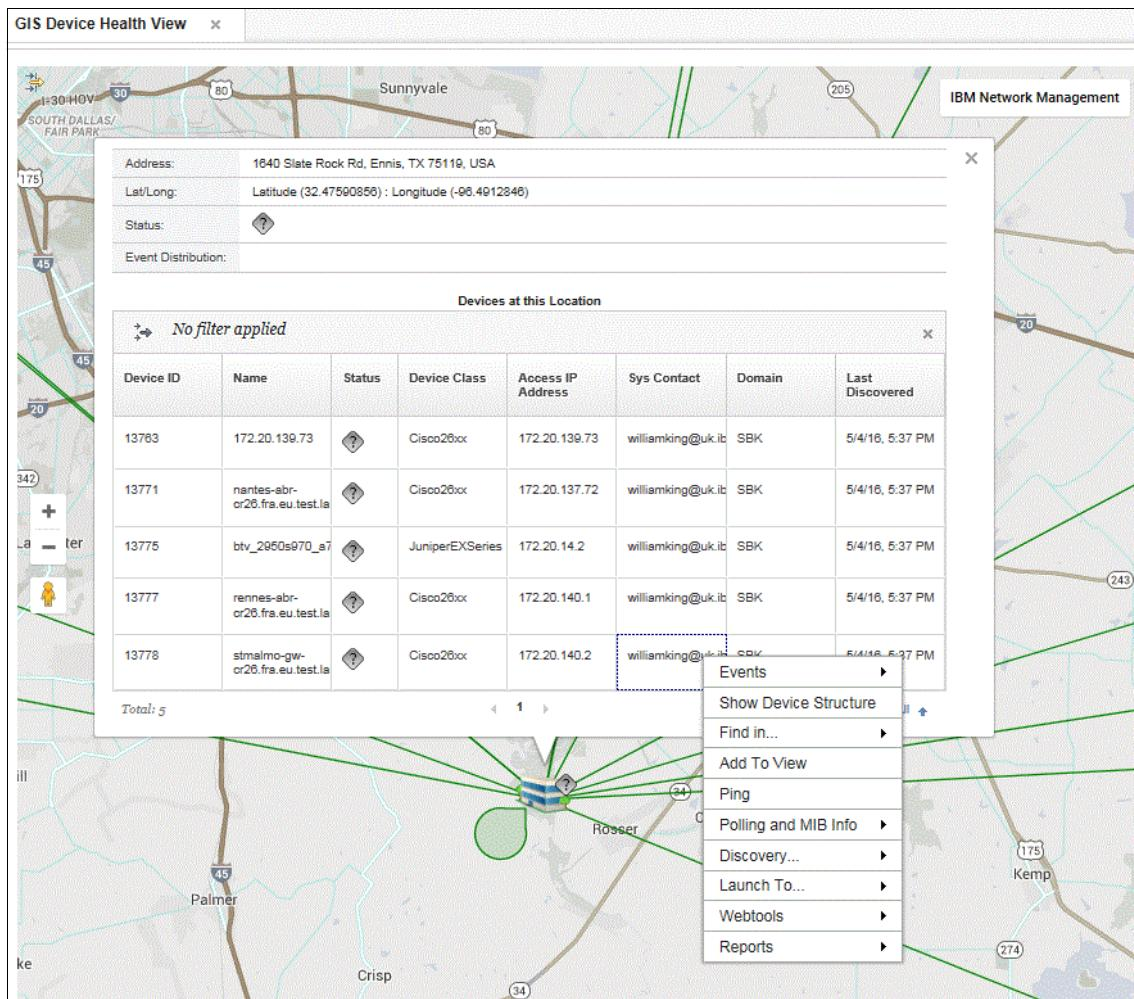

Figure 3-1 Right-clicking building site link
2. Use the right-click menu on any row to use the standard context tools for browsing to other topology views, structure browser, Top Performers, or the diagnostic tools, such as Ping and Trace route, as shown in Figure 3-1.